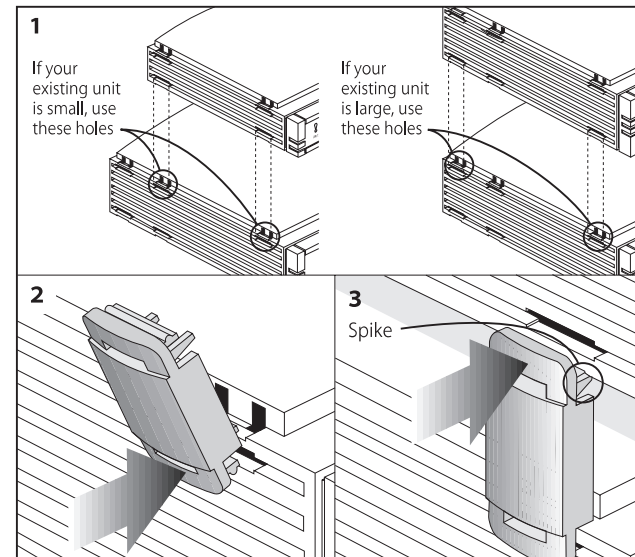

Figure 2-3 Clipping Your Units Together
- 1 Place your new unit on a flat surface. Your clips fit in the positions on the side of the unit, as shown in Figure 2-3 (1).
- 2 Position a clip over one of these holes and push it in until it clicks into place, as shown in Figure 2-3 (2). Repeat this for the other clip position on the same side.
- 3 Keeping the front of the units aligned, rest the bottom of the existing unit on the clips' spikes, as shown in Figure 2-3 (3). Push the clips firmly into the existing unit until they click into place.